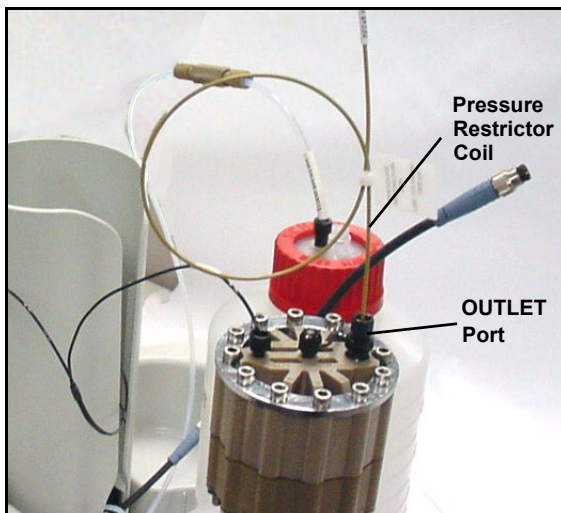

Figure 38. EGC Outlet Connection for Conditioning the EGC
5. Locate the yellow 0.5 mL/min, 1000 psi (7 MPa) pressure restrictor coil (P/N 053765) in the ICS-2000 Ship Kit (P/N 057905). Connect one end of this coil to the EGC **OUTLET** port (see Figure 38). Leave the other end of the coil unconnected.